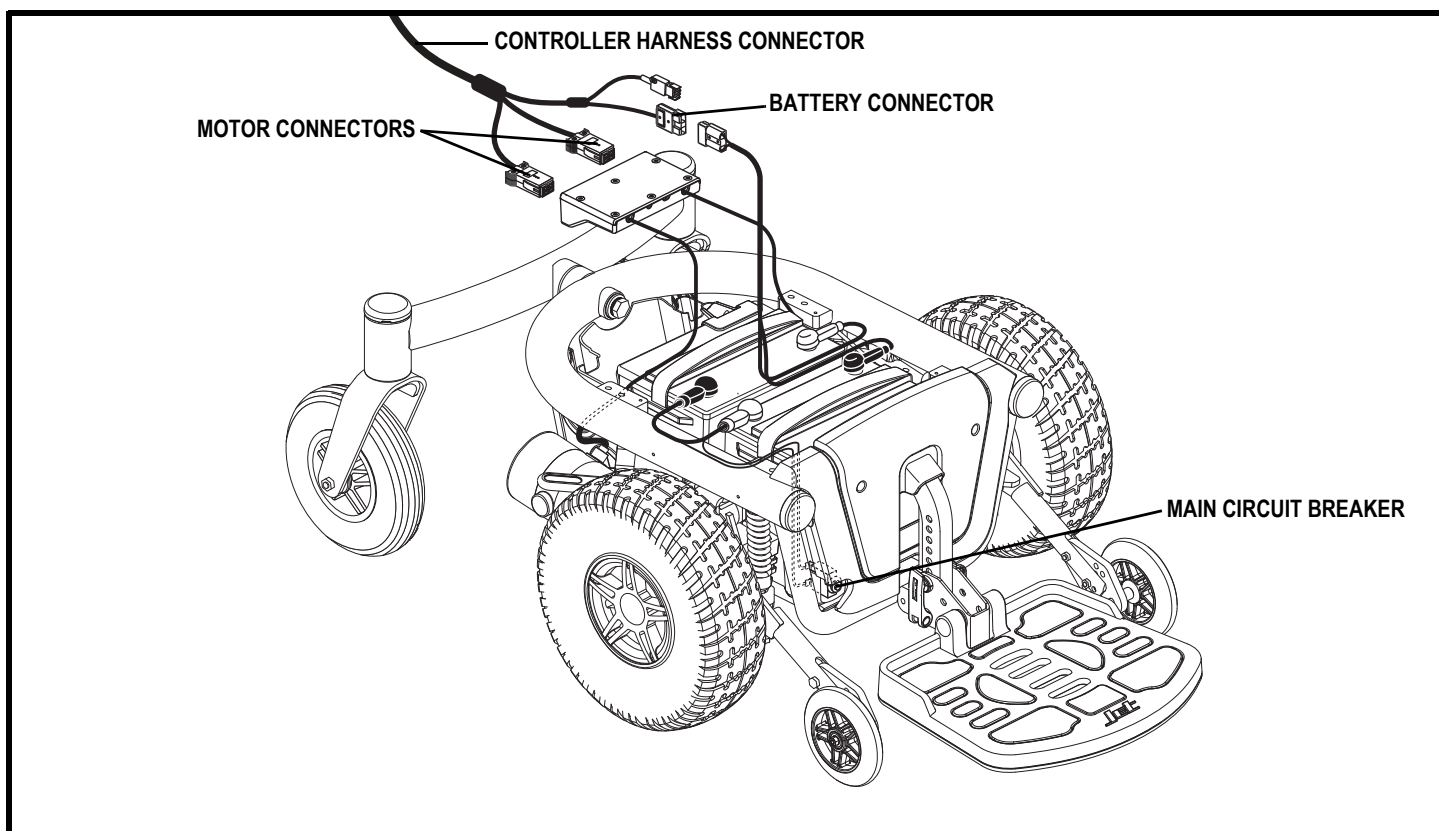

Figure 7. Jet 3 Ultra Electrical Components
The electrical components are located on the power base. The main circuit breaker is located on the front of the battery tray. The controller connector and the motor connectors are located on the power module, inside the power base. See figure 7.
8. Plug the motor connectors and the battery connector into the power module. See figure 7.
2. Unplug the controller connectors from the power module. **See figure 7.**